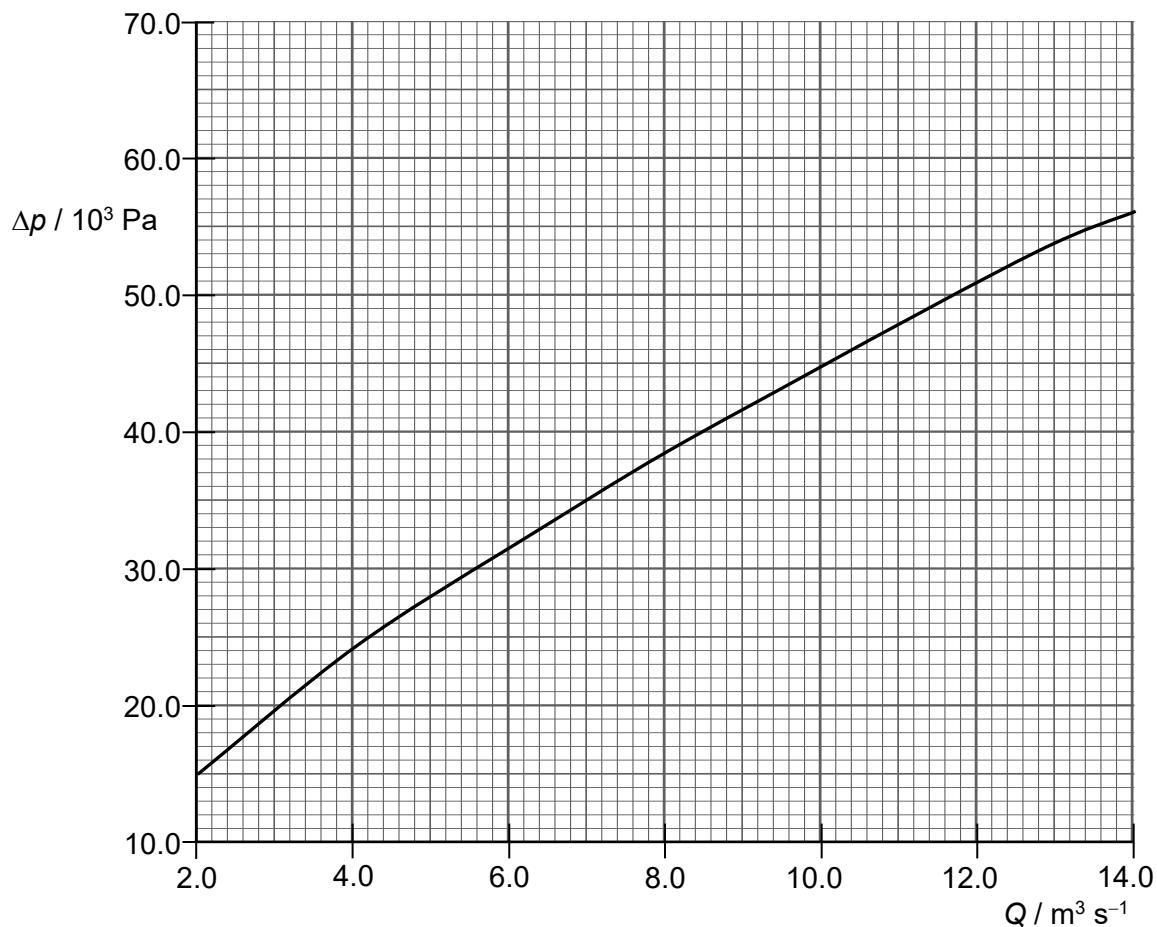

Fig. 7.2
The volume flow rate and pressure drop across the orifice plate are Q and Δp respectively. The variation with Q of Δp is shown in Fig. 7.2.
Data from Fig. 7.2 are used to obtain values of $\lg (\Delta p / \text{Pa})$ and $\lg (Q / \text{m}^3 \text{s}^{-1})$. These are plotted on the graph of Fig. 7.3.
(i) Use Fig. 7.2 to determine $\lg (\Delta p / \text{Pa})$ for $Q = 8.0 \text{ m}^3 \text{ s}^{-1}$.
- (iii) On Fig. 7.2, sketch a second graph to represent the results for oil, instead of water.